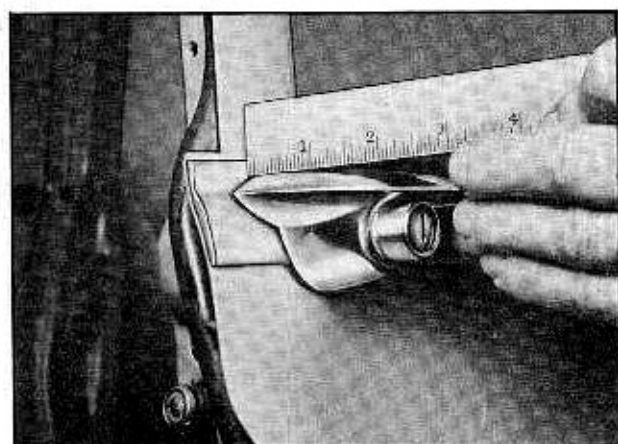

Fig. 3-26 Measuring Push Button Shaft Length
4. Still holding the handle in place so the shaft is just making contact in the lock, measure the distance between the door outer panel and lock handle as shown in Fig. 3-26. When making this measurement, be sure the handle is held in the same relative position--at the same angle--as when it is installed on the door.
(26) Door Outside Handle Assembly Installation